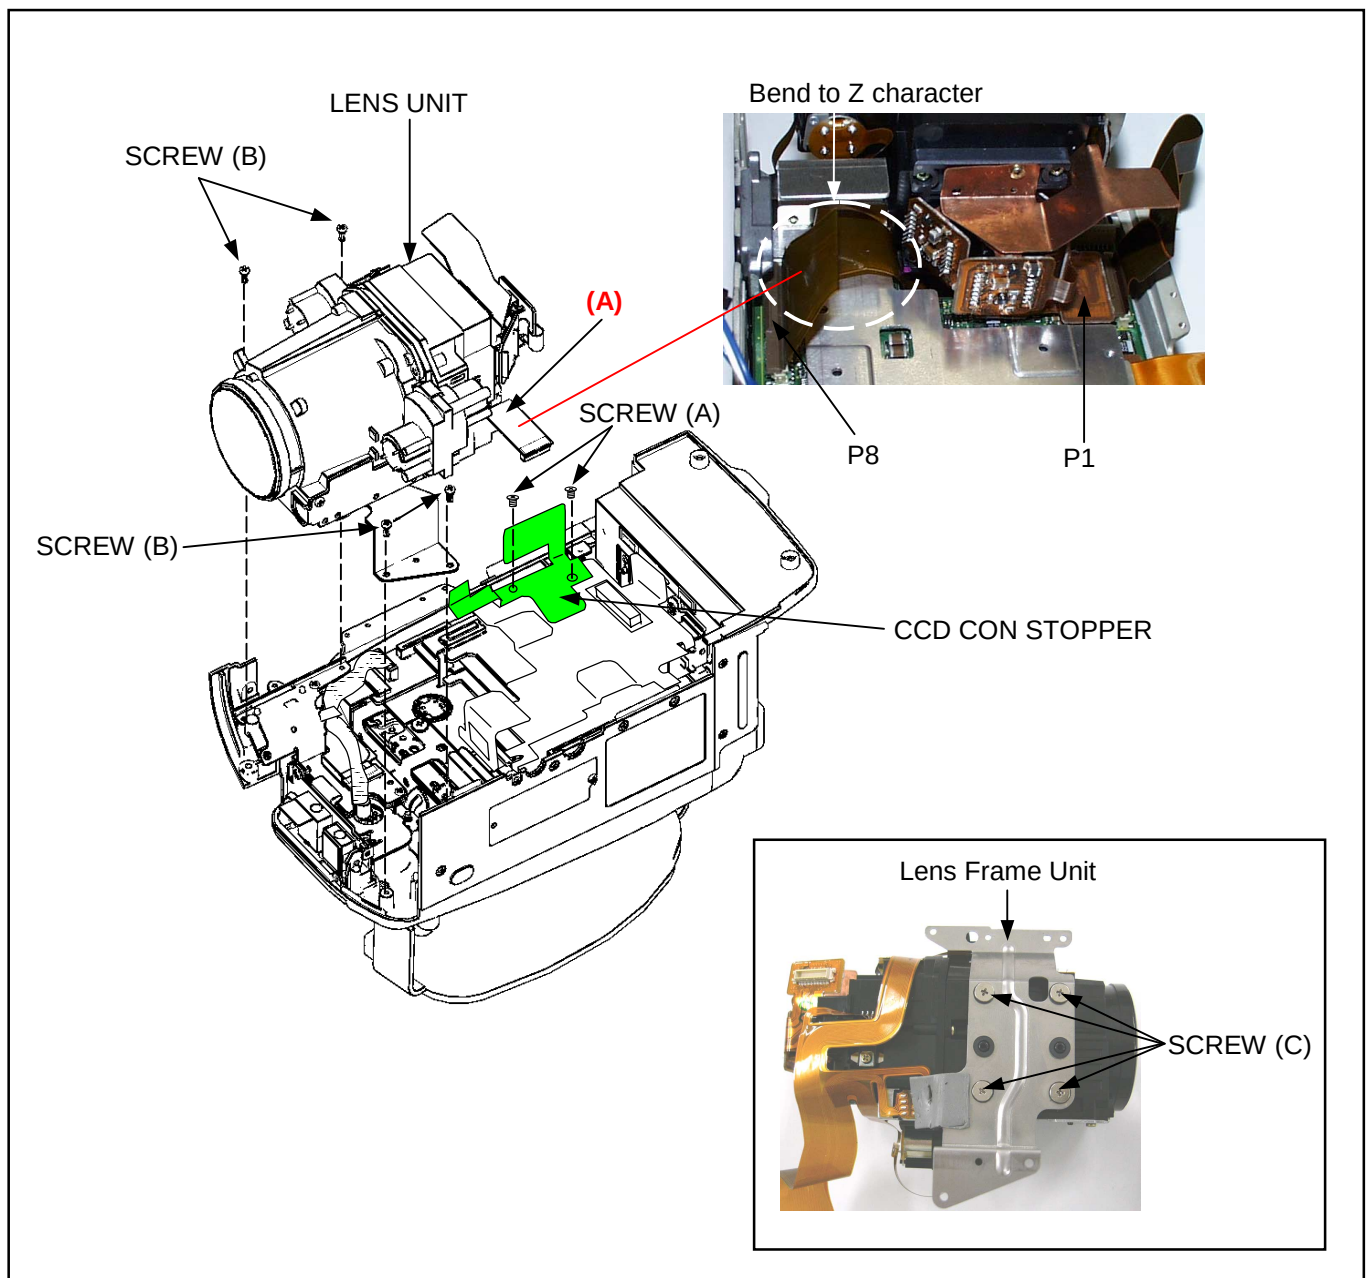

Figure 8-1
6. Unscrew the 2 screws (A) and remove the CCD CON STOPPER as shown in figure 8-1.
7. Disconnect the connector P1 and P8 on CAMERA C.B.A. as shown in figure 8-1.
8. Unscrew the 4 screws (B) and remove the Lens Unit.
9. Unscrew the 4 screws (C) and remove the Lens Frame Unit from Lens Unit as shown in figure 8-1.
1. In case a new Lens Unit is installed, bend the flexible cable (A) to Z character as shown in figure 8-1.